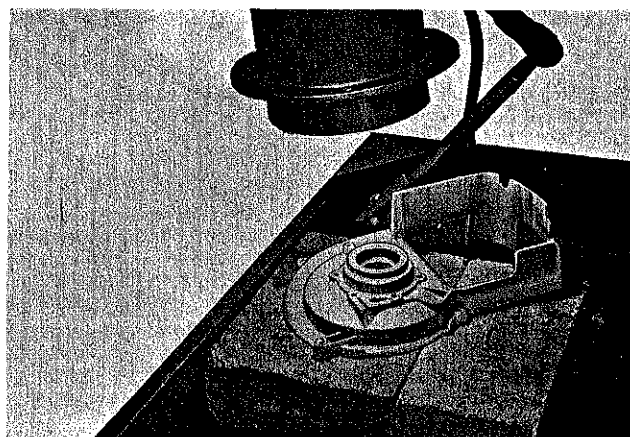

Figure X-27. Using a heat lamp to heat the crankcase cover prior to installing the crankshaft and ball bearing.
3. Heat the crankcase cover to 180° to 200°F. (85° to 95°C.) and press the crankcase cover onto the crankshaft ball bearing. (Figures X-27 and X-28)